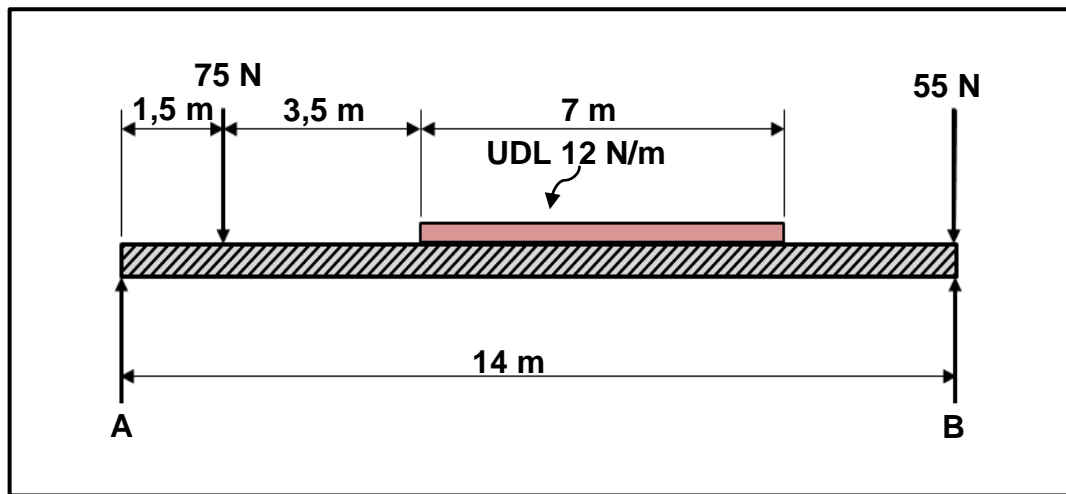

FIGURE 8.2
- 8.2 FIGURE 8.2 below shows a uniform beam supported by two vertical supports, **A** and **B**. Two point loads and a uniformly distributed load (**UDL**) are exerted onto the beam.